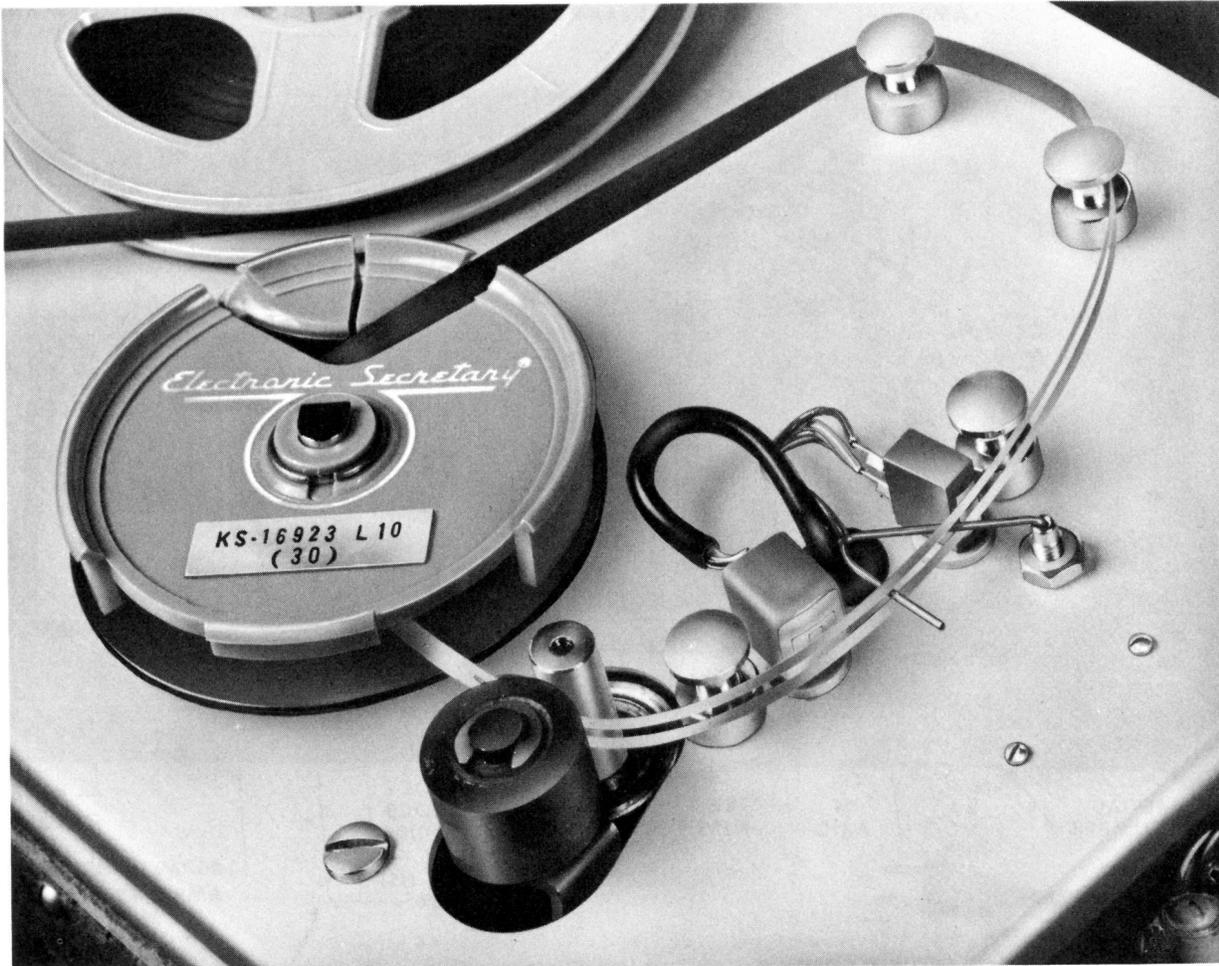

Fig. 4 — KS-16923, List 10 Announcement Cartridge Installed
4. KS-16923, LIST 10 ANNOUNCEMENT CARTRIDGE (FIG. 4)
- (3) Make sure tape rides in groove of guides and that actuator assembly lever rides on top and center of tape.
- (4) Actuator assembly lever shall drop into slot in tape to stop announce motor when the tape is indexed.
- (5) Follow path for tape as shown in Fig. 4.